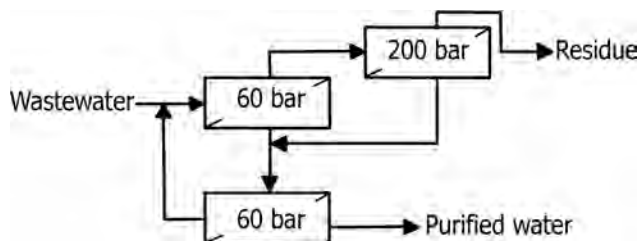

FIGURE 18.58 RO cascade to produce high-quality permeate.
- Figure 18.58 shows the flow diagram of a possible wastewater treatment. The retentate of the 60 bar stage is further concentrated in a 200 bar stage, permeates of both stages are treated in a third stage to reach high quality.